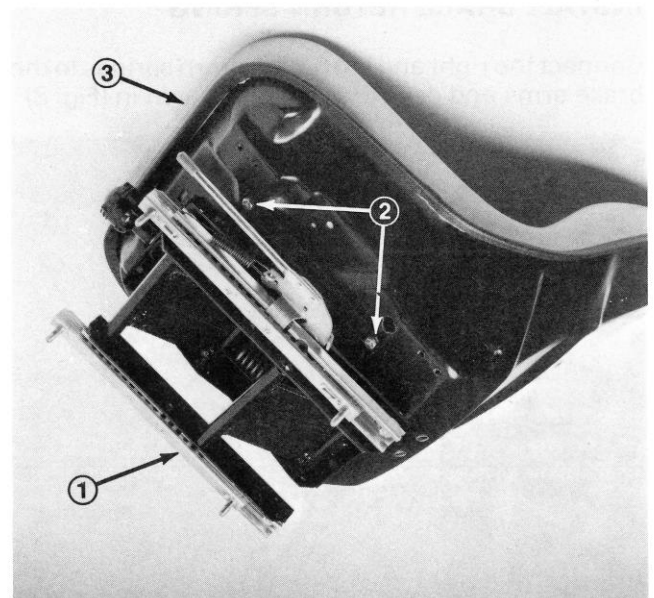

Figure 6
1. Attach suspension assembly to the seat with capscrews and lockwashers as shown in (Fig. 6).